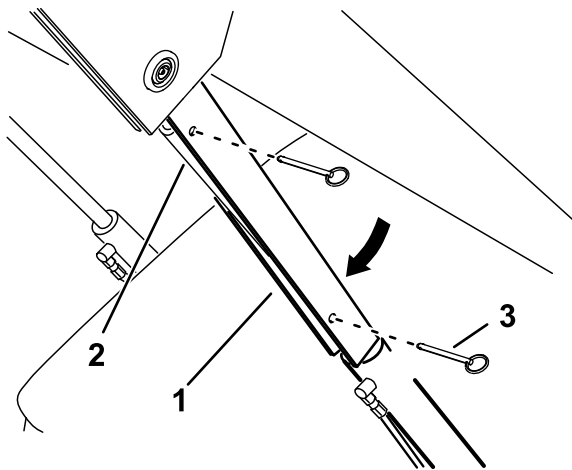

Figure 30
5. Slide the cylinder lock over the lift-cylinder rod (Figure 30).